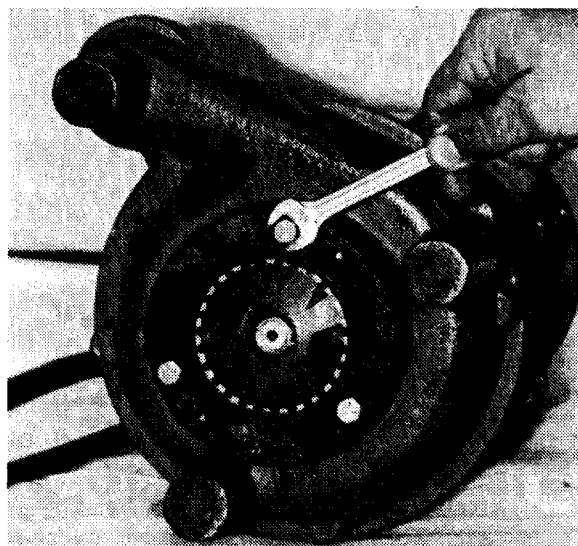

FIG. 3
2. Remove three screws from grinder ring flange. Grinder ring is pressed into flange for easy removal. See Figure 3.